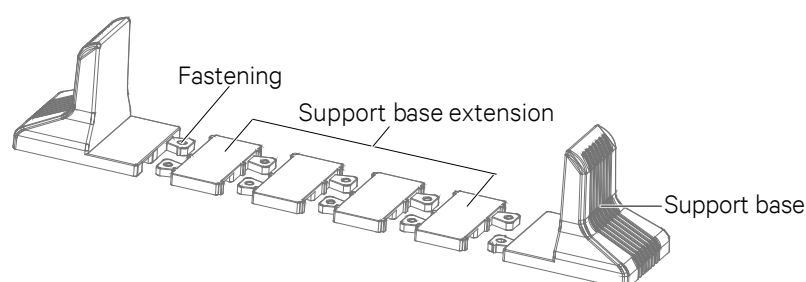

Figure 2-7 Connecting the support base with support base extension
2. If battery module installation is necessary, take out other support base extensions supplied with the battery module, and then assemble the support base extensions and the support bases through the fastenings, as shown in Figure 2-7.